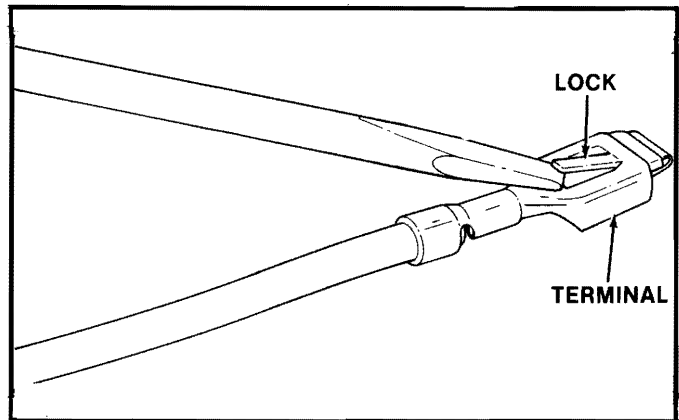

Figure 6—Resetting Lock Tang
1. If blade type terminals are reused, pry out the lock tang on the terminal clip to assure a firm connection when the terminals are inserted (figure 6).